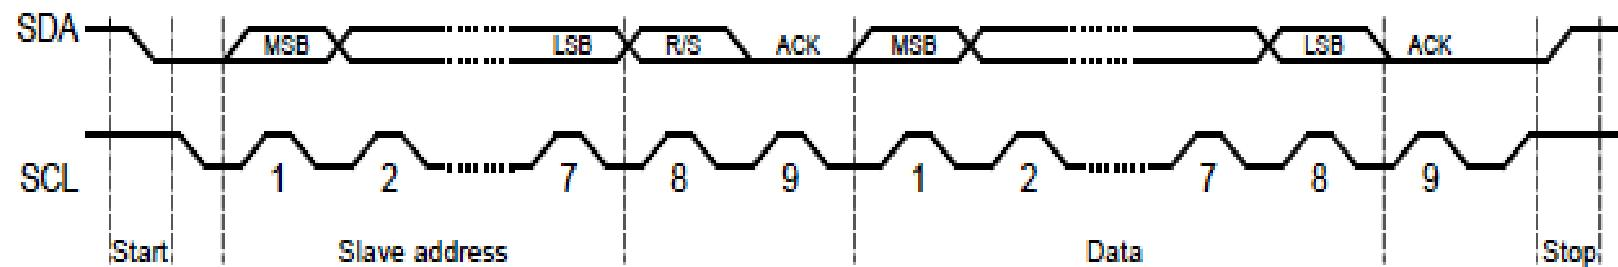

Figure 8.45 The I2C data transfer format and frame.
- In the I2C module, the data transfers follow the format shown in Figure 8.45.
- All bus transactions have a required acknowledge clock cycle that is generated by the master. During the acknowledge (**ACK**) cycle, the transmitter that can be the master or slave releases the **SDA** line as shown in Figure 8.45.